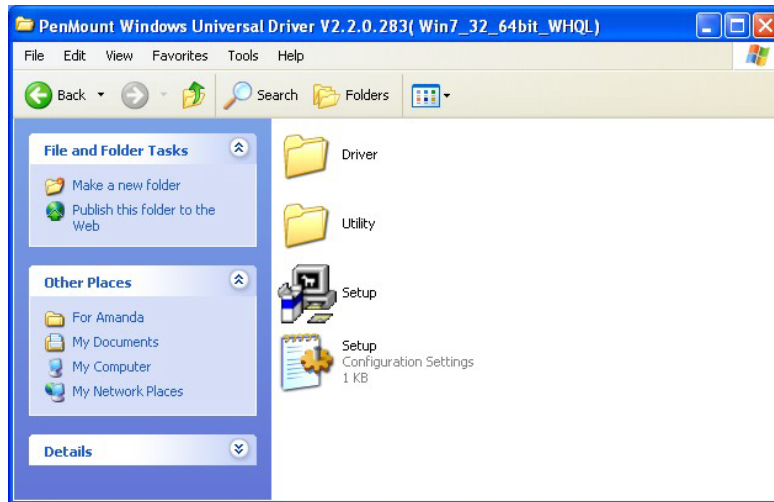

Figure 5-1: Setup Icon
Step 3: Select the **Touch Screen** option in the menu of driver CD. The directory in **Figure 5-1** appears.
Step 4: Double click the setup icon in **Figure 5-1**.